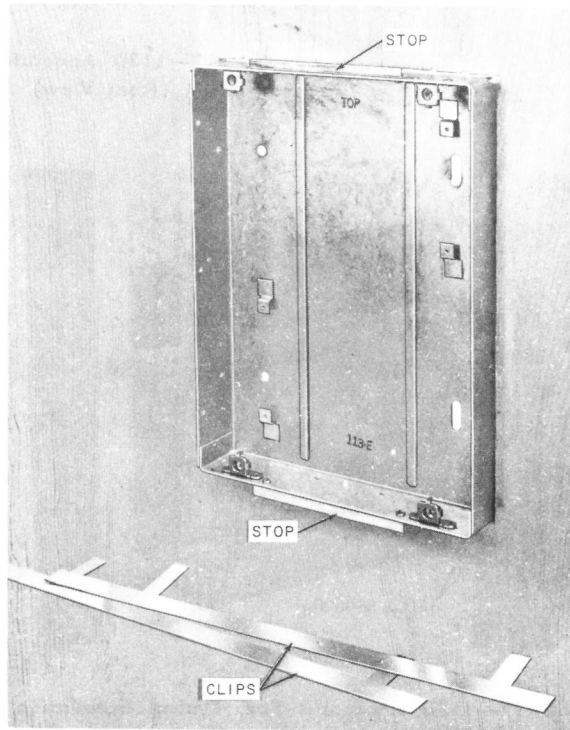

Fig. 14—113E Apparatus Box, Showing Clips and Installation of Stops From D-179941 Kit of Parts
(1) Mount the stops on top and bottom of the apparatus box with screws provided (Fig. 14).
3.08 114A Apparatus Box: The 114A apparatus box requires a hole 8-5/8 inches by 11-5/8 inches to be cut in the wall. The two clips from a D-179941 Kit of Parts are used to secure the box in the wall in the same manner as the 113E apparatus box (Fig. 14, 15, and 16). The two stops and mounting screws from the D-179941 Kit of Parts are not required. The 114A apparatus